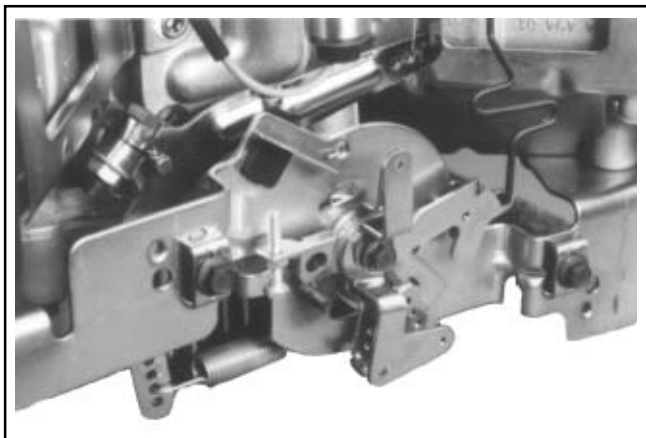

Figure 5-36. Governor Controls and Linkage (External).
- The regulating pin contacts the tab on the cross shaft causing the shaft to rotate. One end of the cross shaft protrudes through the crankcase. The rotating action of the cross shaft is transmitted to the throttle lever of the carburetor through the external linkage. See Figure 5-36.
Make this adjustment whenever the governor arm is loosened or removed from the cross shaft. See Figure 5-36 and adjust as follows: